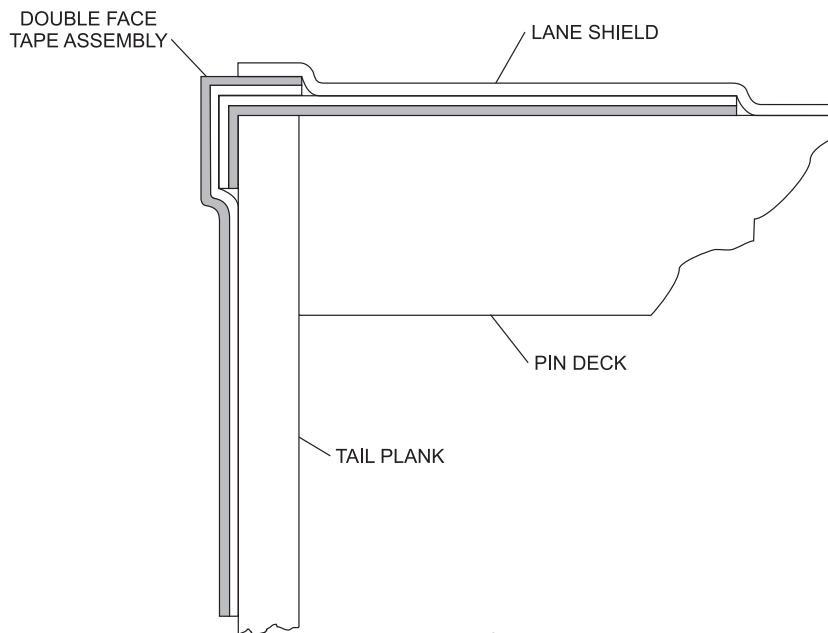

Figure 2
- c. Thoroughly clean the top and back edge of the pin deck prior to applying the two pieces of tape. Apply the tape to the pin deck, crease on the edge, so the backing of the tape is in contact with the top of the pin deck, overlapping approximately 1" (2.5 cm) over the back edge, with the adhesive side facing up. Refer to Figure 2.